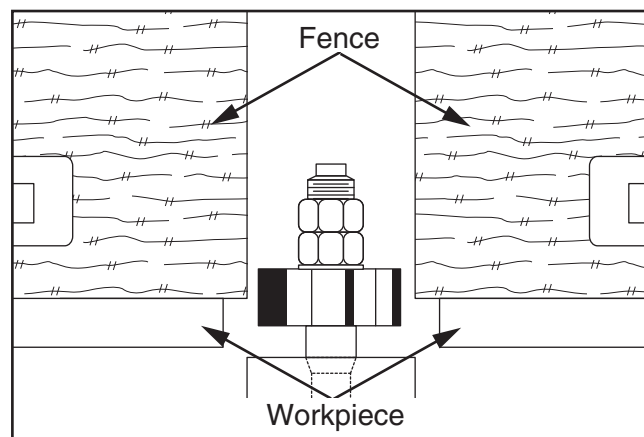

Figure 28. Lateral fence alignment.
4. Set right and left wood faces to barely clear cutter (see **Figure 28**). This allows maximum support possible for workpiece while passing cutter.